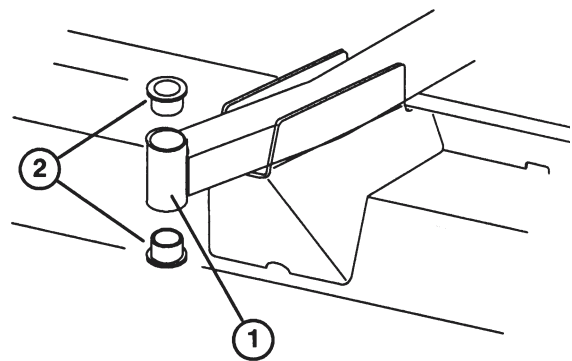

Figure 15
4. Insert the pin punch into the top or bottom of the mounting tube and drive the bushing out of the tube (Fig. 15). Also drive the other bushing out of the tube. Clean the inside of the mounting tube to remove any dirt.